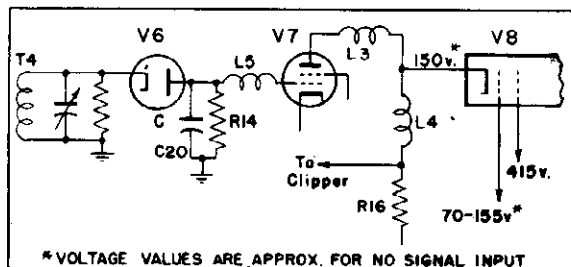

Fig. 4. Video Detector & Amplifier
3. VIDEO DETECTOR AND AMPLIFIER (See Figure 4)—The video i-f amplifier output is applied to a diode rectifier, V6, and the diode load, R14, is connected so as to develop a negative-going signal voltage at this point. The signal is amplified by tube V7 and then applied directly to the cathode of the picture tube, V8. This provides direct coupling so that d-c reinsertion is unnecessary. The chokes L5 and L3 are series peaking chokes, while L4 is a shunt peaking choke. These are used to obtain good high frequency response. L5 also prevents harmonics of the i-f frequency from being passed through the video amplifier. R16 is the V7 tube plate load resistor.
4. CLIPPER AND SYNC AMPLIFIER—The triode section, V9A, of a Type 6SN7GT tube is used to separate the sync pulses from the video signal taken off at the load resistor, R16, see Figure 4. This is accomplished by applying very low plate voltage to V9A, then the resulting grid rectification causes negative bias to be developed at the grid of V9A so that conduction occurs only during the sync pulse intervals which are the most positive component of the video signal.